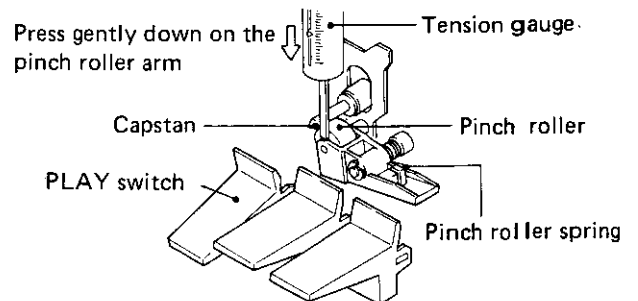

Fig. 18 Pinch Roller Pressure Adjustment
1. Press the PLAY key, and gently press down against the pinch roller arm with a tension gauge (spring pressure balance with approx. 500g scale) (see Fig. 18).